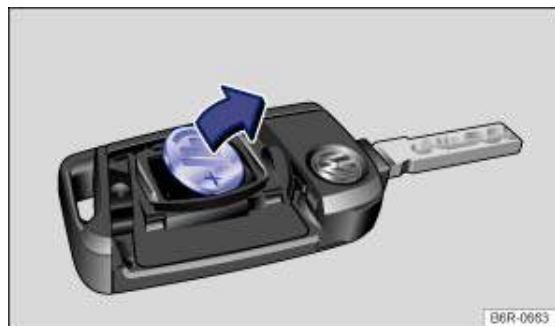

Fig. 25 Vehicle key: removing the battery
- Using a suitable thin object, lever the battery out of the battery compartment → *Fig. 25* .
- Insert the new battery as shown → *Fig. 25* and push it into the battery compartment against the direction of the arrow →  .